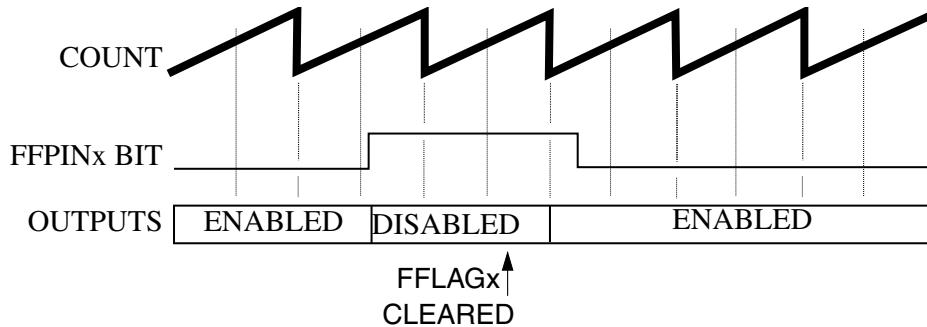

Figure 120. Manual fault clearing (FCTRL[FSAFEEx] = 0, FSTS[FFULLx] = 1)
- The pins are enabled when the next PWM full or half cycle begins regardless of the logic level detected by the filter at the FAULTx pin, as shown in Figure 120. If FSTS[FFULLx] is set, then the disabled PWM pins are enabled at the start of a full cycle. If FSTS[FHALFx] is set, then the disabled PWM pins are enabled at the start of a half cycle.